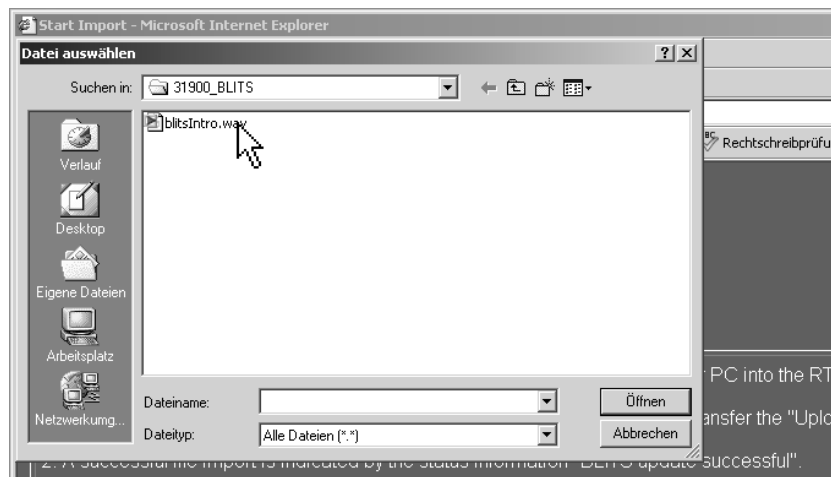

Fig. 8-29: The BLITS file selection dialog box (blitsIntro.wav)
4. Choose the folder (e. g.: C:\31900_BLITS) with the ident intro wave file and click the file e. g. **blitsIntro.wav** (see Fig. 8-29).